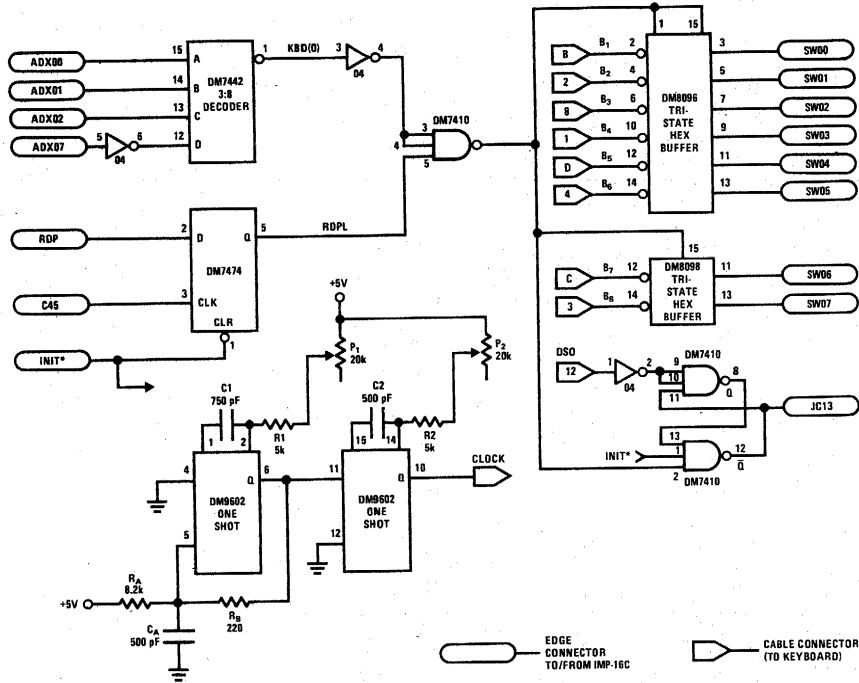
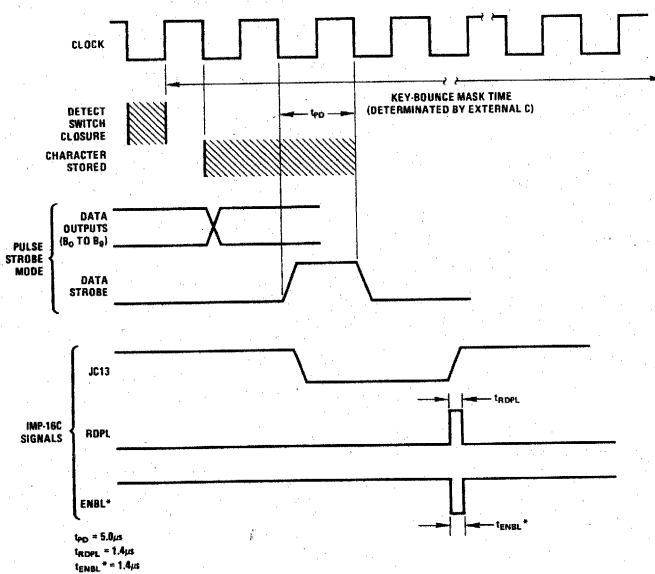

FIGURE 3. Text Editing Keyboard (TEK) Interface Logic for IMP-16C
FIGURE 4. MM5740/IMP-C Timing Diagram
In the following sample interface design the MM5740 chip and several discrete components are mounted on a communications keyboard. A cable from the 40 pin connector on the keyboard to an 8 1/2" x 11" interface board provides the physical communications link to the processor. The interface board has space available for components to implement a cassette and CRT interface for text editing applications. Pages of text could be stored as cassette records, called up by the keyboard and displayed on the CRT. Appropriate keyboard commands could be programmed to edit the page. Lines could be inserted, deleted, copied or moved as required. The finished page could be restored on the cassette. Figure 3 is a schematic diagram of the keyboard interface logic board.
The BOC instruction is essentially a test for keyboard character ready. The data strobe output (DSO) from the keyboard (cable connector pin 12) is stored in a set-reset latch built from cross coupled NAND gates (see Figure 3). This is because the DSO pulse width is one clock period or 5.0μs and the processor might not detect DSO in the required time. Refer to Figure 4 for IMP-16C/MM5740 timing. The complement output of the latch (Q) is connected to jump condition 13 (JC13). The BOC instruction tests for JC13 and branches to the PC relative address specified in the displacement field if the condition is true. Normally JC13 is true; when a key is pressed DSO goes high which forces Q low. The jump condition will then be false and the next instruction executed. This next instruction is a RIN 0 which takes the character from the keyboard encoder (B1 to B8) into AC0. Thus, this program is in a one-word BOC loop until a key is pressed.
The MM5740's clock input (CLK) is provided by a dual one shot (DM9602) connected as an oscillator. A 200 kHz square wave is generated using the logic shown in Figure 3.